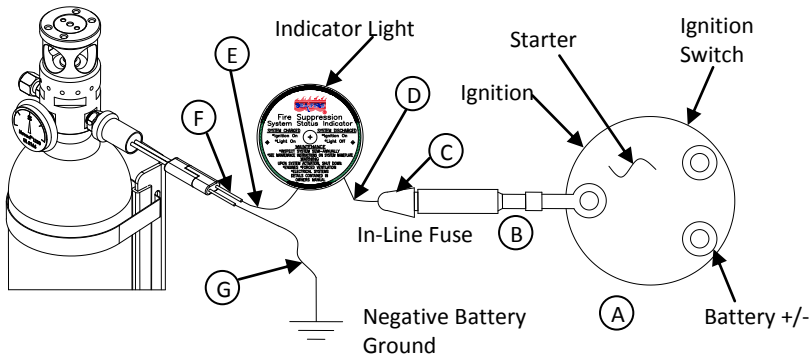

Figure 7
Select a location at the helm on or near the console that is in full view of the helmsman. The location selected must have access for electrical wiring. Remove the adhesive protective cover from back of indicator faceplate and attach. For proper adhesion, surface must be clean and dry and temperature must be above 50°F (10°C). Use the preformed faceplate hole as a template and carefully drill a 5/16 inch (8 mm) hole. Insert indicator light wire (see Figure 7).
1. Five (5) ampere in-line fuse and holder.
Attach one wire lead from the in-line fuse (C) to the ignition terminal on the started switch. Connect other lead from the in-line fuse to the indicator light (D). Connect remaining indicator lead (E) to one of the Sea-Fire cylinder pressure switch connector wires (F). Connect the remaining cylinder pressure switch lead (G) to common ground, which may be the negative battery buss at the control panel, or directly to the engine block (see Figure 7).